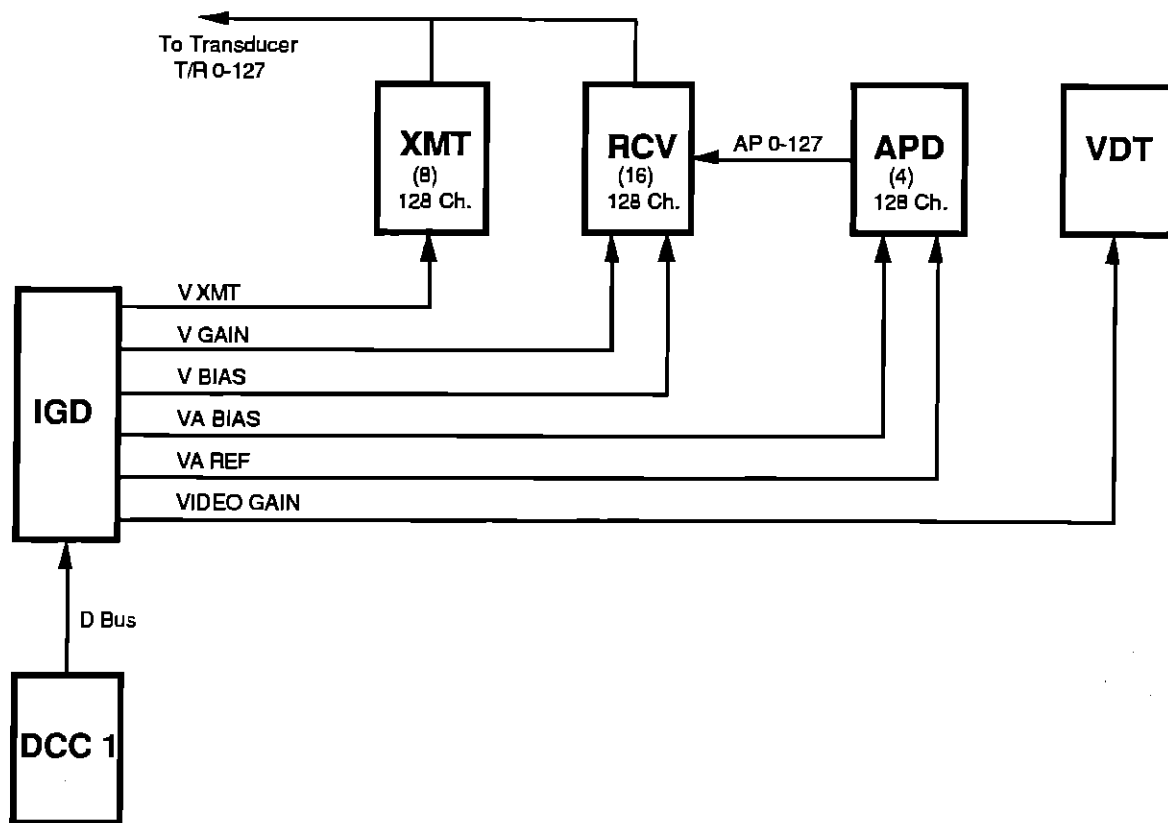

Figure 3-3. Scanner Gain Control Block Diagram
- The Receiver boards amplify the low level signals and convert them to an intermediate frequency using mixer signals from the Mixer Clock boards. Signals from the Apodizer boards and Interpolating Gain Driver board control the gain of the Receiver boards to compensate for depth loss and adjust the aperture of the array. Refer to Figure 3-3.